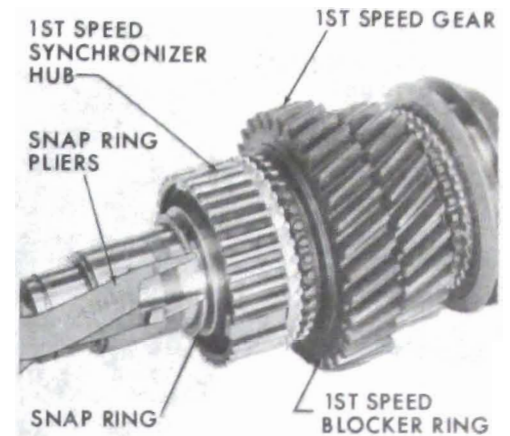

Figure 72-319 Installing First-Speed Synchronizer Snap Ring
7. Install first-speed synchronizer snap ring. See Figure 72-319.